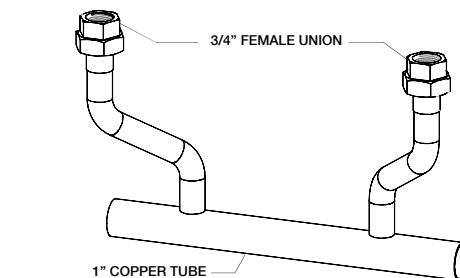

Figure 6.2: Low Loss Header (Mandatory for C-140)
**Low Loss Header** – A copper pipe assembly fitted on to the heating loop that connects the boiler piping to the system piping. (See Fig. 6.2). Supplied with Model C-140 only. May be purchased separately as an optional for C-95.